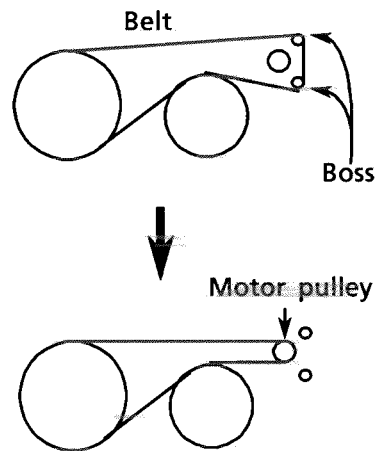

Fig 16 Flaywheel view
- 1.Install the belt of boss as shown in Fig 16 up side.
- 3.Hang the belt of the motor pulley using a tweezers and the like as shown in Fig 16 down side .